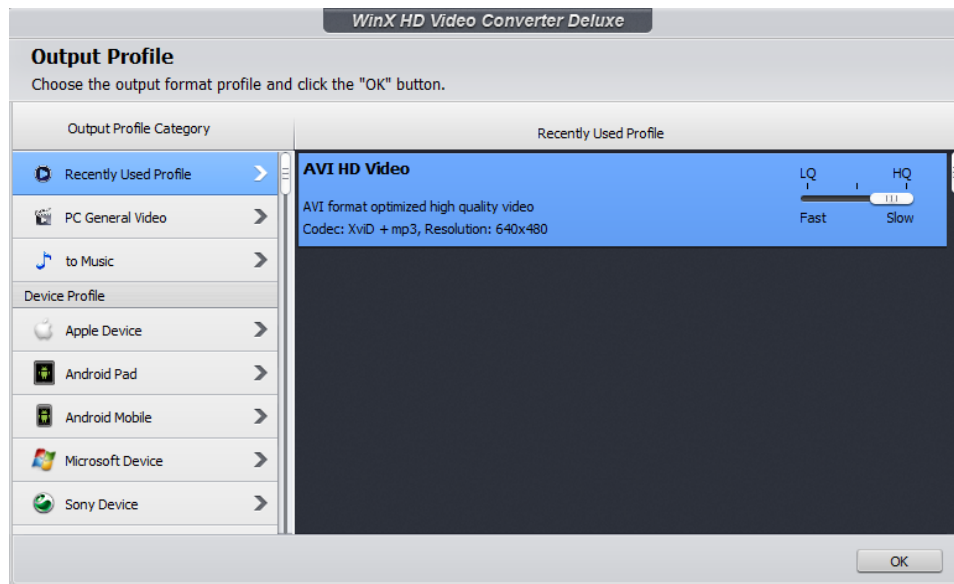

Figure 4.2 Selecting a Video Output File Format. An AVI HQ video codec should be used to convert files to a format compatible with MATLAB.
3. Video output format can be changed by selecting the “HD” button (Figure 4.2).